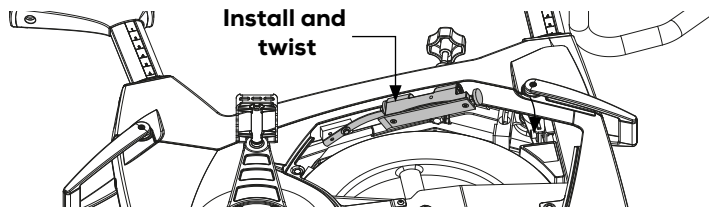

Figure 25
3) Take the new brake block and fasten it to the frame by tightening the screw closest to the brake block. Then place the block in the correct position under the brake, see figure 25.